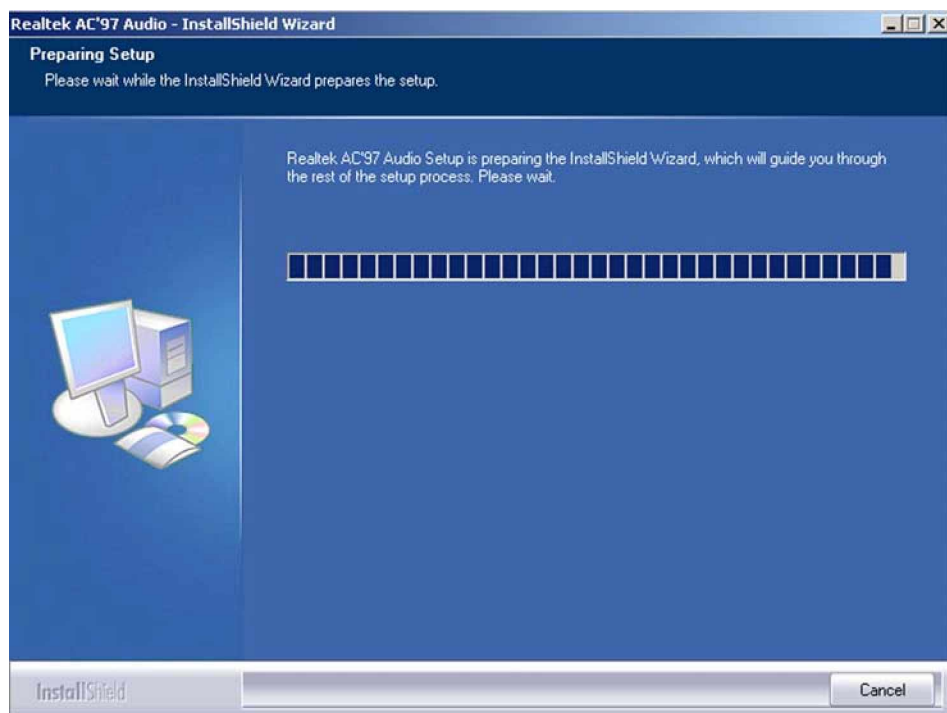

Figure 6-7: Audio Driver Setup Preparation
- Step 3:** The RealTek Audio Setup prepares the install shield to guide a user through the rest of the setup process. See **Figure 6-7**.